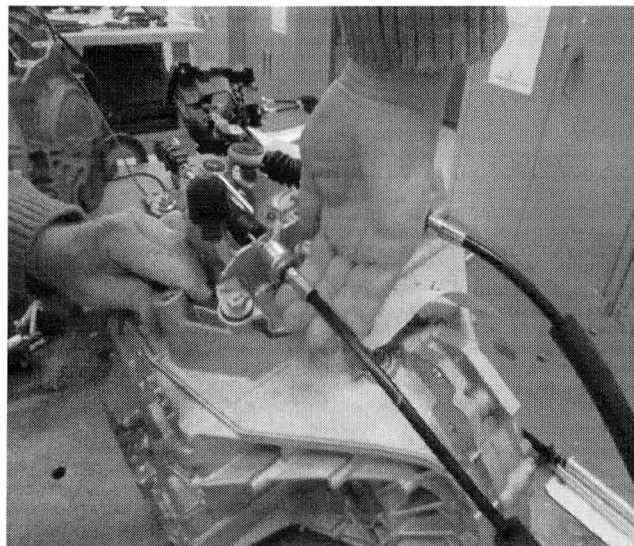

Fig. 8 Shift Cable Transmission
18. Pull up on the shift cable as in (Fig. 8).